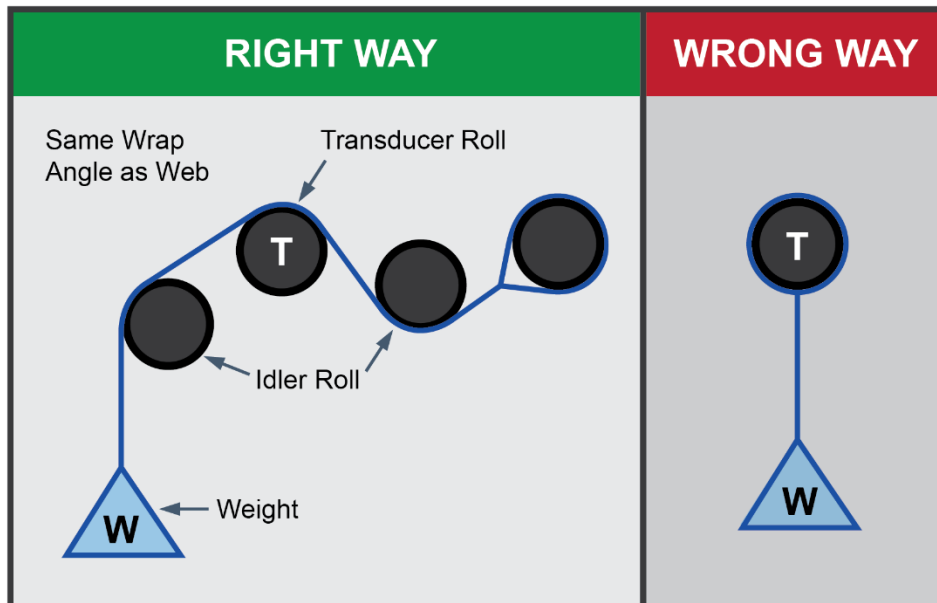

Figure 12 - WEB PATH
1. See Figure 12. Pass the rope over the Transducer Roll and through the same path as the web follows. Tie the end to the machine at least one idler roll beyond the Transducer Roll. Pass the other end by at least one idler roll before the Transducer Roll. Be sure the rope does not pass over any driven rolls, braked rolls, or dead bars (this will cause inaccurate calibration). Attach the weight to the free end of the rope and let it hang without touching anything.